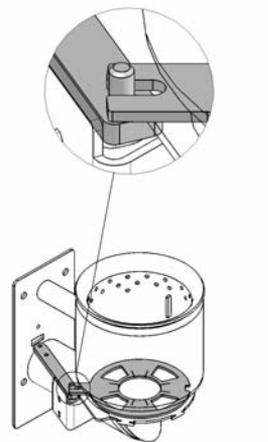

Fig. 123 BioWIN 100/150
- Insert the grate plate (5), making sure the projection/opening of the grate plate (5) projects through the driver of the driving rod and rests fully on the bottom grate plate – Figs. 123, 124.